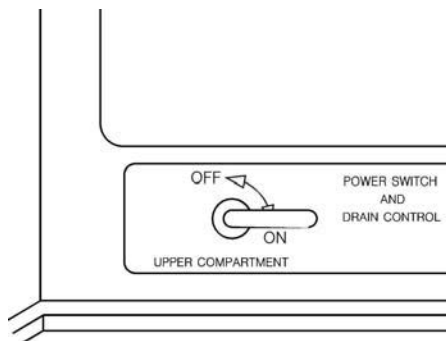

Figure 2-2 ON/OFF Lever
2. Turn the ON/OFF lever/switch (see Figure 2-2 or 2-3), depending on model, clockwise to the ON position to energize the steamer control panel. The red indicator light on the control panel lights, the combustion blower turns ON to purge the generator and water fills the steam generator.